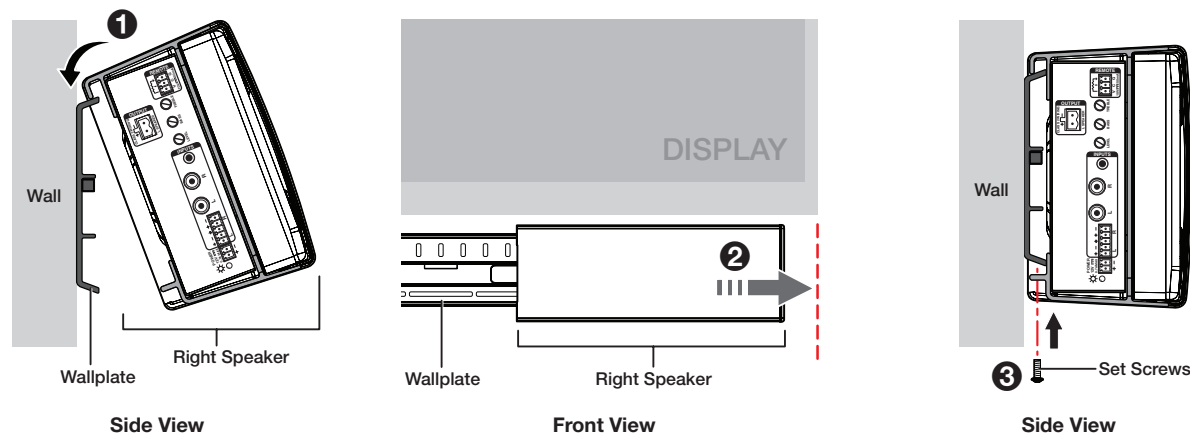

Figure 12. Attaching the Right Speaker to the Wallplate
3. Hook the top clasp edge of the right speaker assembly over the top rail of the wallplate (figure 12, ①) and slide it to right end of the wallplate (②) so that the right end of the speaker assembly is aligned with the right end of the display.